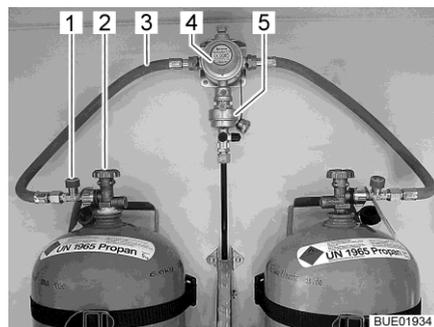
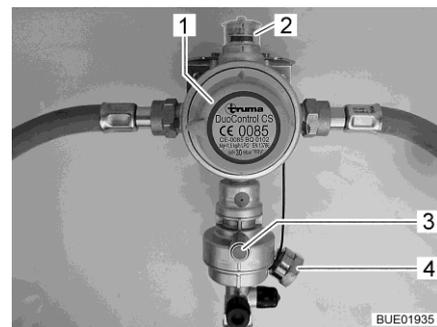

Fig. 63 Gas bottles with DuoControl
Fig. 64 DuoControl regulating system
The DuoControl regulating system consists of a reversing valve (Fig. 63,4) and a crash sensor (Fig. 63,5). The DuoControl regulating system is installed between the gas tubes (Fig. 63,3) with hose break guard (Fig. 63,1). The knob (Fig. 64,1) on the reversing valve is used to select which of the gas bottles is to be used as primary bottle and which is to be used as reserve bottle.
The status of the gas supply is indicated in the inspection window (Fig. 64,2):
The operation with only one gas bottle is allowed but in this case the open connection must be closed with a blind cover (Fig. 64,4).
Crash sensor The crash sensor blocks the gas supply in the event of a significant impact (e.g. accident). The crash sensor is put into operation with the green reset button (Fig. 64,3).
Hose break guard The hose break guard (Fig. 63,1) blocks the gas flow if the connected hose breaks. The hose break guard must be activated by pressing the green button. The green button must be pressed until the pressure in the hose has built up.
Operating unit At the operating unit (Fig. 65), the gas supply via the DuoControl regulating system is switched on and off. The regulator taps (Fig. 63,2) of the gas bottles and the gas isolator taps of the devices must be opened manually. To activate the hose break guard, see section "Hose break guard".
- Use the knob (Fig. 64,1) on the reversing valve to select the gas bottle which is to be the primary source of gas (primary bottle). Always turn the knob as far as it will go.
- Open regulator taps (Fig. 63,2) on the gas bottles.
- Press the green button of the hose break guard (Fig. 63,1). The green marking is shown in the inspection window (Fig. 64,2).
- Close regulator taps (Fig. 63,2) on the gas bottles.
If the green indicator lamp (Fig. 65,6) goes out during operation and the red indicator lamp (Fig. 65,5) lights up, the primary bottle is empty and must be changed. The red marking is shown in the inspection window (Fig. 64,2). The reserve bottle continues supplying the gas appliances with gas.
- Turn the knob (Fig. 64,1) a half turn in the direction of the currently used gas bottle. In this way, this gas bottle is the primary bottle now, and the empty gas bottle becomes the reserve bottle. The marking in the inspection window (Fig. 64,2) changes from red to green.
- Close regulator tap (Fig. 63,2) on the empty gas bottle. Pay attention to the direction of the arrow.
- Press the green button of the hose break guard (Fig. 63,1).